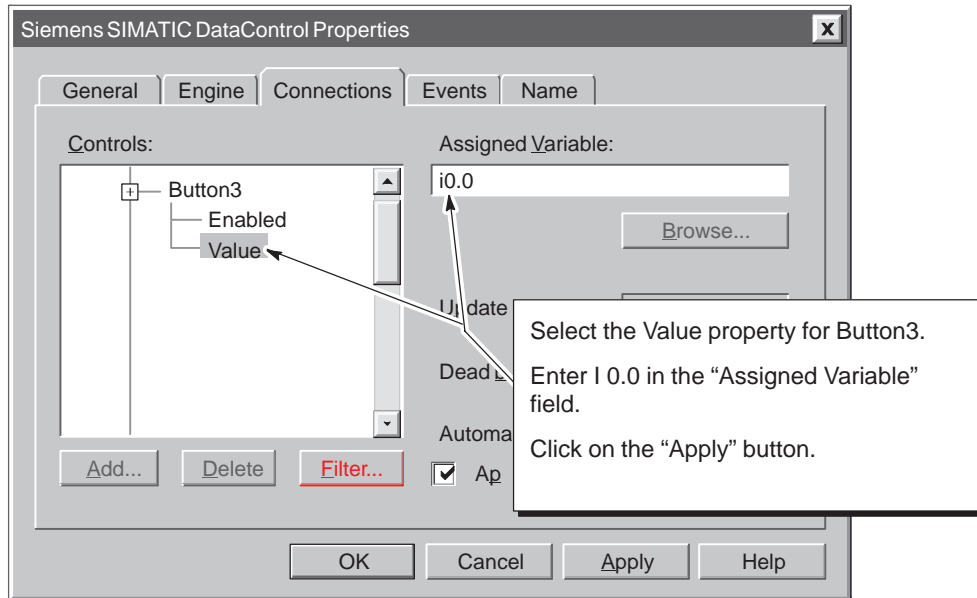

Figure 3-20 Assigning the Variable for Button3
10. With the Value property for Button3 selected, enter `I 0.0` in the “Assigned Variable” field. See Figure 3-20.